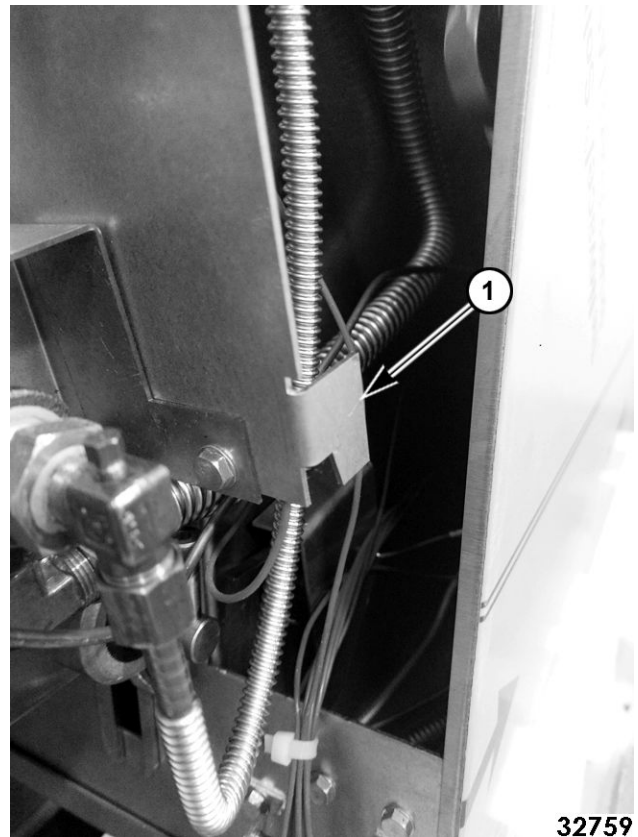
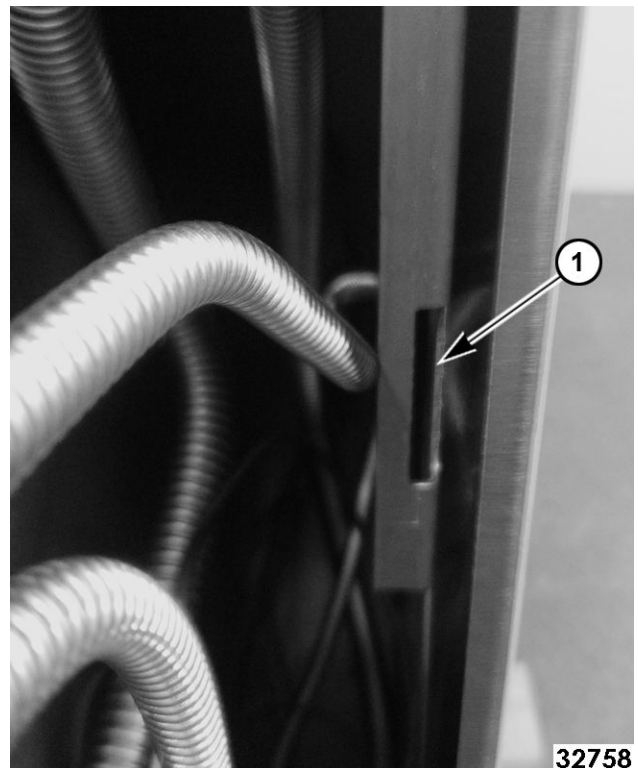

Fig. 24
Fig. 25
7. Lift up gas mount bracket to release hook (1, Fig. 24) off inner tab (1, Fig. 25). Pull out pilot safety valve and temperature control bracket assembly from oven.